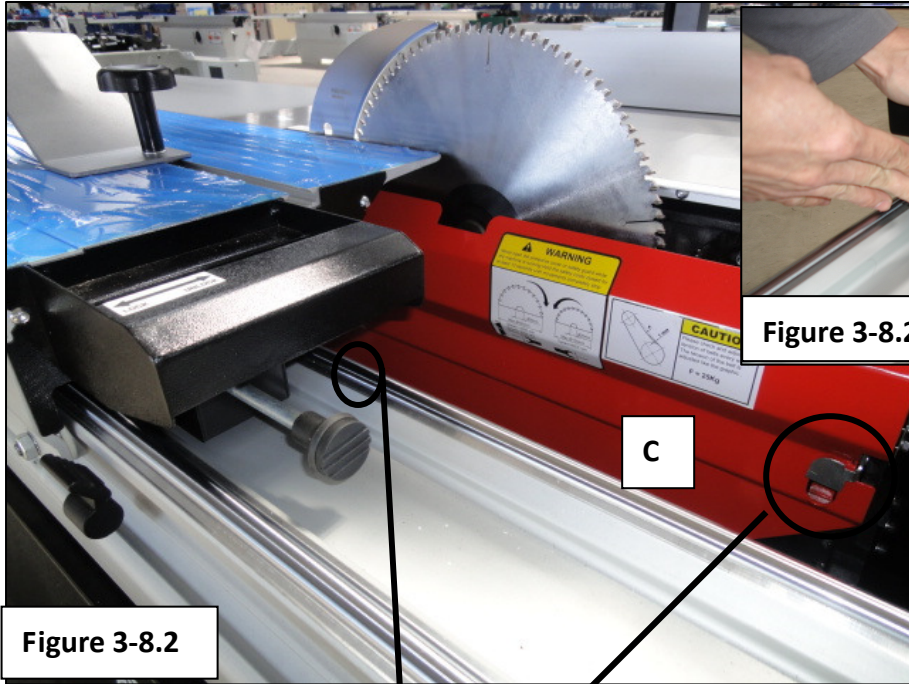
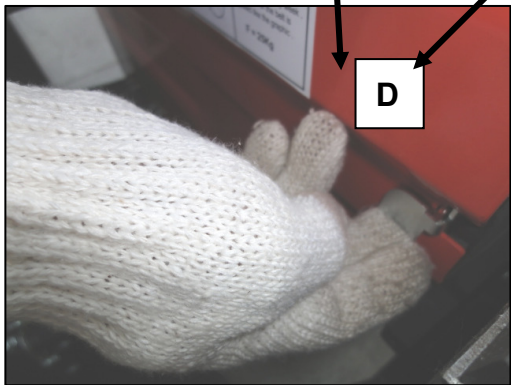

Figure 3-8.2
Figure 3-8.2a
5. Open the blade protect guard -red cover **C** (Fig. 3-8.2) by pulling **D** (Fig. 3-8.2a) on both sides of it.